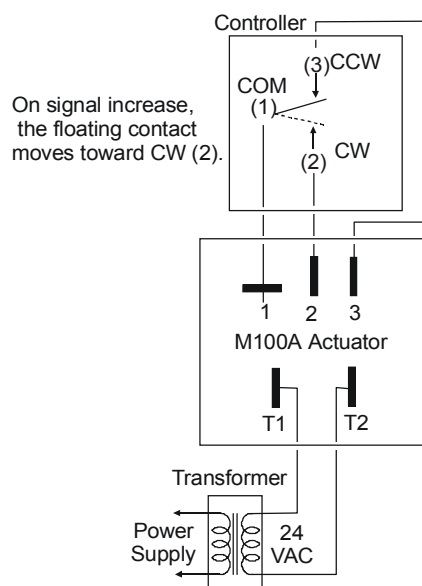

Figure 3: Wiring to the Controller
4. Connect the controller to Terminals 1, 2, and 3 located in the wiring compartment. (See Figure 3.)
Figure 3 shows a typical wiring diagram for an actuator controlled by a snap acting/floating temperature (for example, an A19), pressure, or humidity controller.
When power is off or removed from Terminals T1 and T2 on spring return models, the actuator spring returns to the zero CCW position. When the actuator is powered, and Terminals 1 and 2 (shown in Figure 3) are jumpered, the actuator will run between electrical zero and the CW limit. When setting up damper or valve linkages, maintain power to Terminals T1 and T2 to hold the position against the spring and accurately indicate CW and CCW limit adjustments.